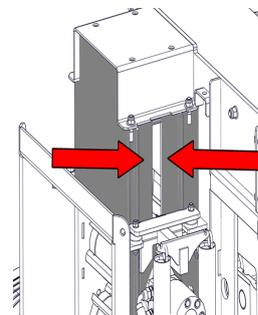

Figure 28 - Greasing the Roller box Slides
5. Apply thin grease, with a brush, directly to the slide surfaces, including the inner cheeks of the slider (Figure 28).